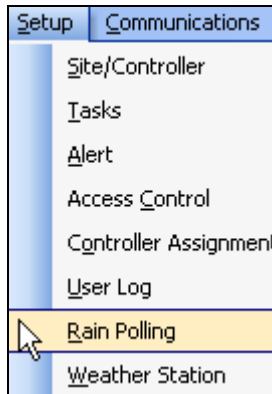

Figure 13.0.1
1. In the upper toolbar select **Setup** and then scroll down to **Rain Polling** and click on it (Figure 13.0.1).